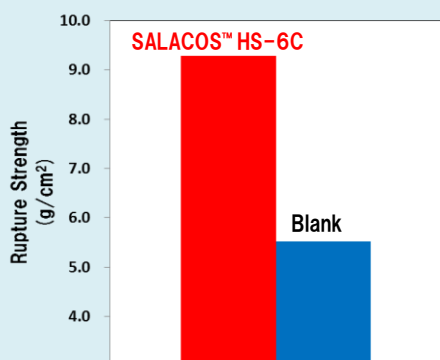

Fig.2 Elasticity of Foam
1. Measure elasticity of the foam by a rheometer\*2. (reference to Fig.2)